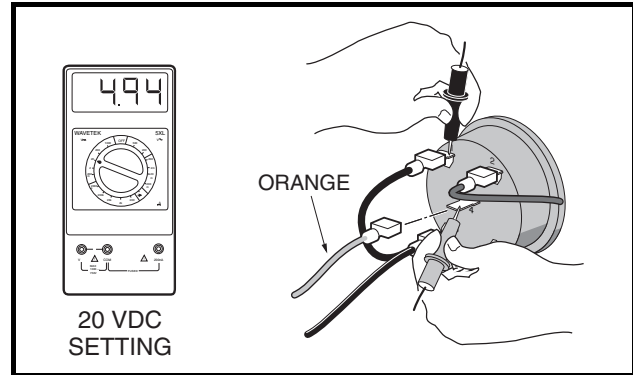

Figure 11-42 Fuel Gauge Voltage Test - Terminal 4
9. The orange wire should remain disconnected for this step. Place the black probe of the multimeter on the (1) terminal of the fuel gauge/hour meter and place the red (+) probe on the (4) terminal of the fuel gauge/hour meter (**Figure 11-42, Page 11-37**). The voltage reading should be approximately 4.94 volts. If the reading is incorrect, replace the fuel gauge/hour meter.